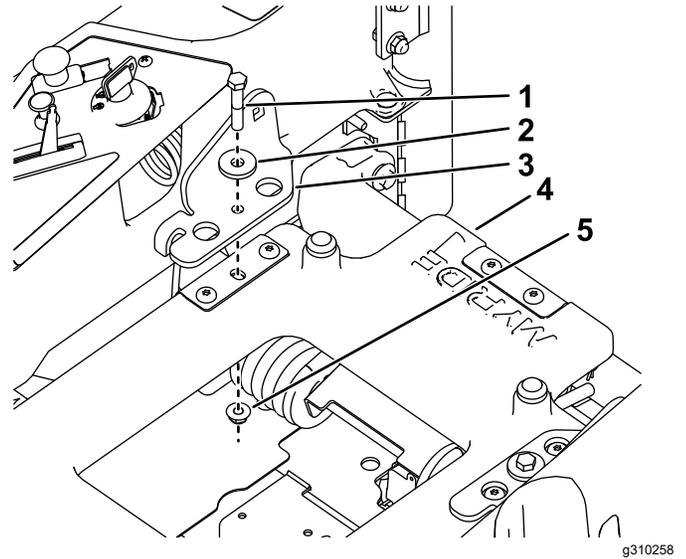

Figure 7
1. Install the seat belt brackets to the seat platform with 2 partial-thread bolts (3/8 x 2 inches), 2 small washers, and 2 locknuts (3/8 inch) as shown in Figure 7.